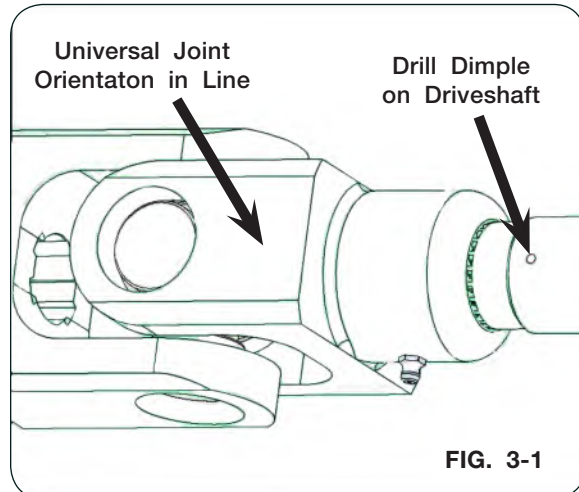

FIG. 3-1
1. Slide driveshaft down into the universal joint attached to the gearbox until the end of the shaft extends into the universal joint about 2 3/8". Ensure universal joint and driveshaft splines completely engage. Verify the hitch end for adequate length for driveline assembly to connect. (Fig. 3-1 and 3-3)
3. With bearing mounting hardware completely tightened, drill a setscrew dimple in the driveshaft by going through the bearing setscrew threaded hole to dimple the driveshaft being careful to not damage threads. Drill the dimple to a depth that setscrews are flush with the bearing prior to applying blue thread locker and installing setscrews. (Fig. 3-1)
4. For alignment of the yoke, the orientation of the universal joint at the gearbox must be in line with the driveshaft drill dimple when the driveline assembly is attached. (Fig. 3-1, 3-2, and 3-3)